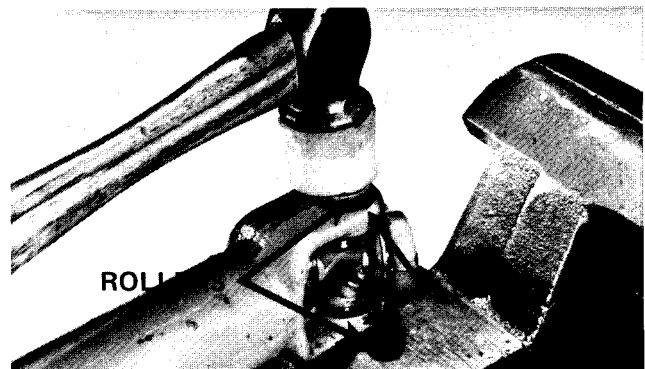

Figure 23
10. Insert one of the cross trunnions into the roller. Start the other roller making certain it slips over the trunnion (Fig. 23).